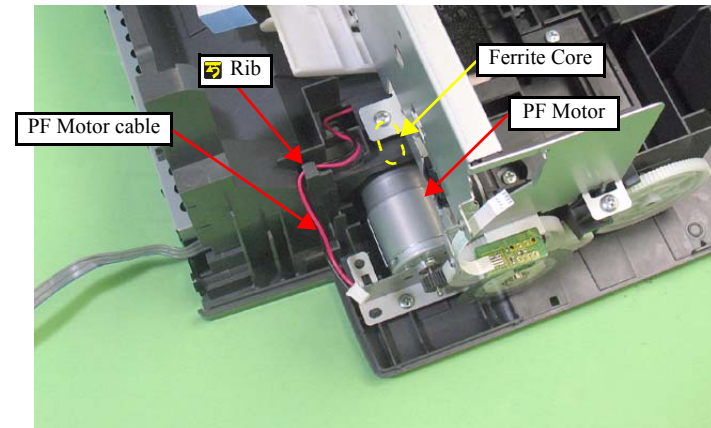

Figure 4-67. Removing the PF Motor (1)
4. Release the Bracket from the dowels of the Lower Housing, and remove the Bracket and the PF Motor while pulling out the PF Motor Cable (see Fig.4-67.) through the hole of the Lower Housing.
- Route the PF Motor Cable following the procedure below. (See Fig.4-67.)